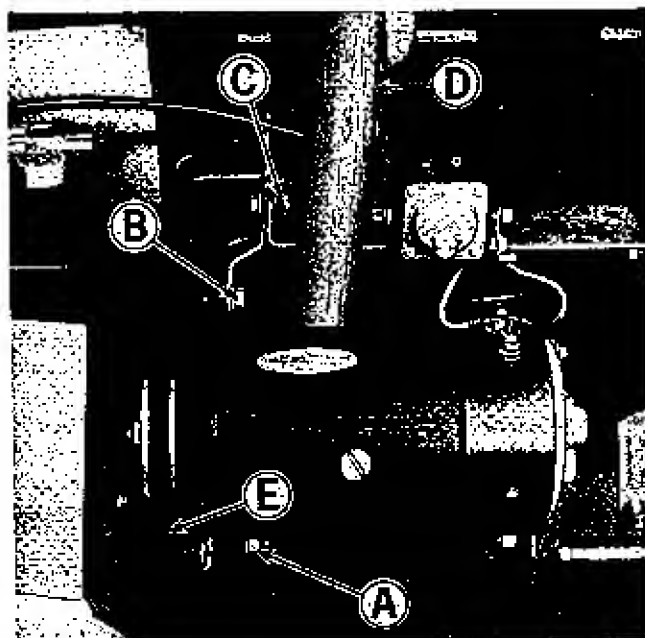

Figure 17. Generator located on right side of engine.
See figure 17. If the starter turns, but the engine does not rotate, the starter generator belt may need tightening. Proceed as follows:
2. See figure 17. Loosen slightly the two nuts (A) cap screw (B) and nut (C). Use a pry bar similar to the one shown between the generator and engine block to apply pressure to the generator and tighten the belt. The belt should be tight enough so thumb pressure at (E) will deflect it about 1/4".
3. While holding the pry bar to maintain tension on the belt, tighten the mounting bracket at (C) securely.
4. Actuate the starter to make sure the engine will rotate. If it does not, loosen the nut at (C) and apply more tension to the belt.
5. Tighten the two nuts at (A) and the cap screw (B) securely.